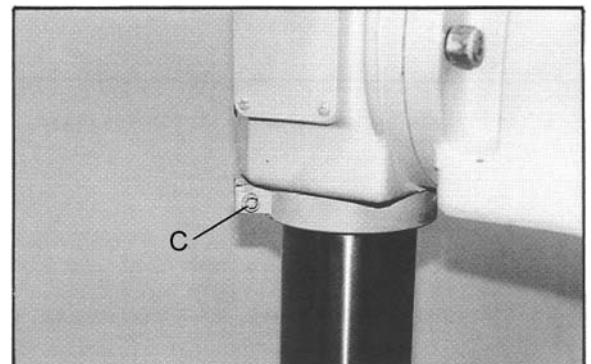

Figure 6
2. Loosen the hex socket cap screw (C, Figure 6) on the upper rack ring.
5. The rack assembly is at its full height when the top rack ring is just below the head assembly (as illustrated in Figure 6).